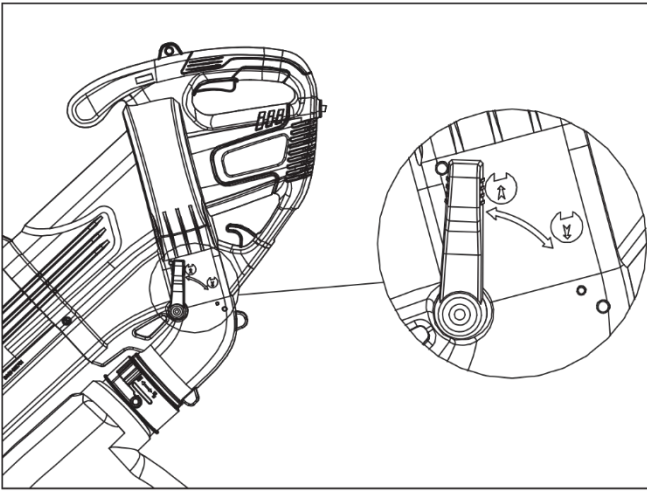

Fig. 4
2. Move the lever to the up position to use the product as a vacuum (Fig. 4).